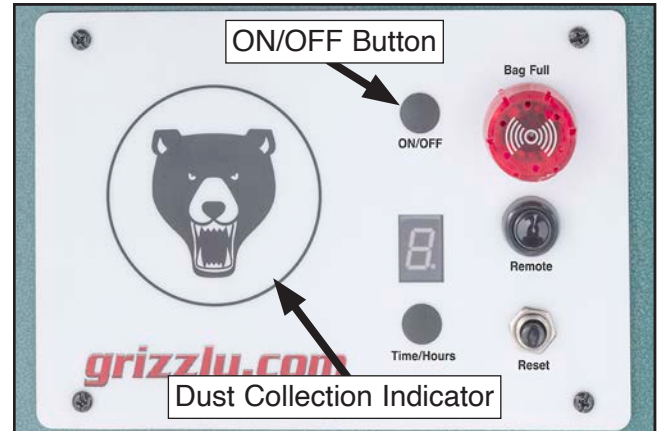

Figure 18. Location of ON/OFF button and dust collection indicator.
5. Press ON/OFF button (see **Figure 18**) to turn motor **ON**.